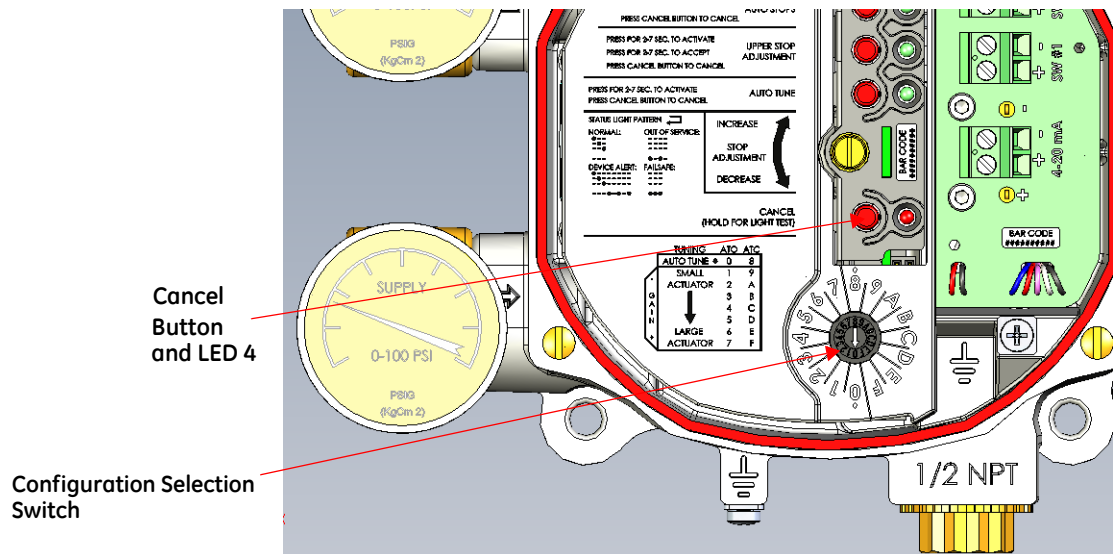

Figure 28 Configuration Selection Switch
- Use the *Configuration Selection Switch* to select a preset tuning value (Figure 28).